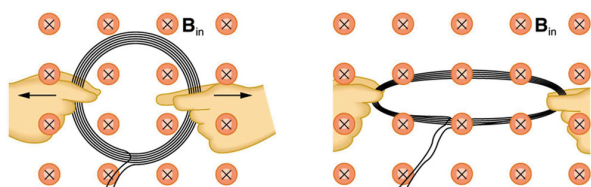

Figure 23.54 A circular coil of wire is stretched in a magnetic field.
4. Is an emf induced in the coil in Figure 23.54 when it is stretched? If so, state why and give the direction of the induced current.